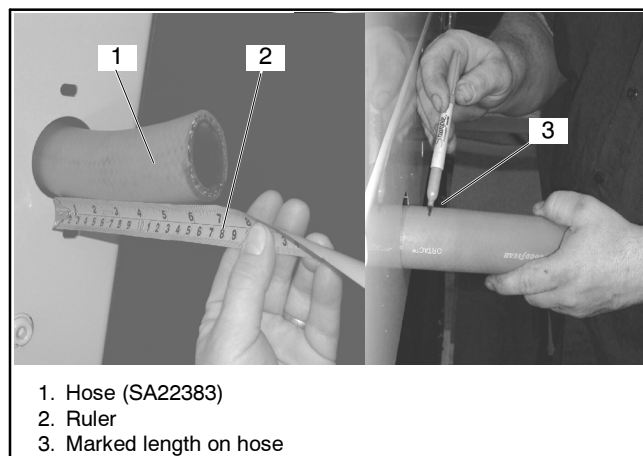

Figure 11 Measure and Mark Hose SA22383 Length
2.1.10 Slide hose SA22383 over 1 1/2 in. NPT hose connector X-751-4. Use a ruler to measure the required length of hose. Mark the point of required length on hose. See Figure 11.
- 2.2.6 Use a ruler to measure the required length of hose. Mark the point of required length on hose. See Figure 11.